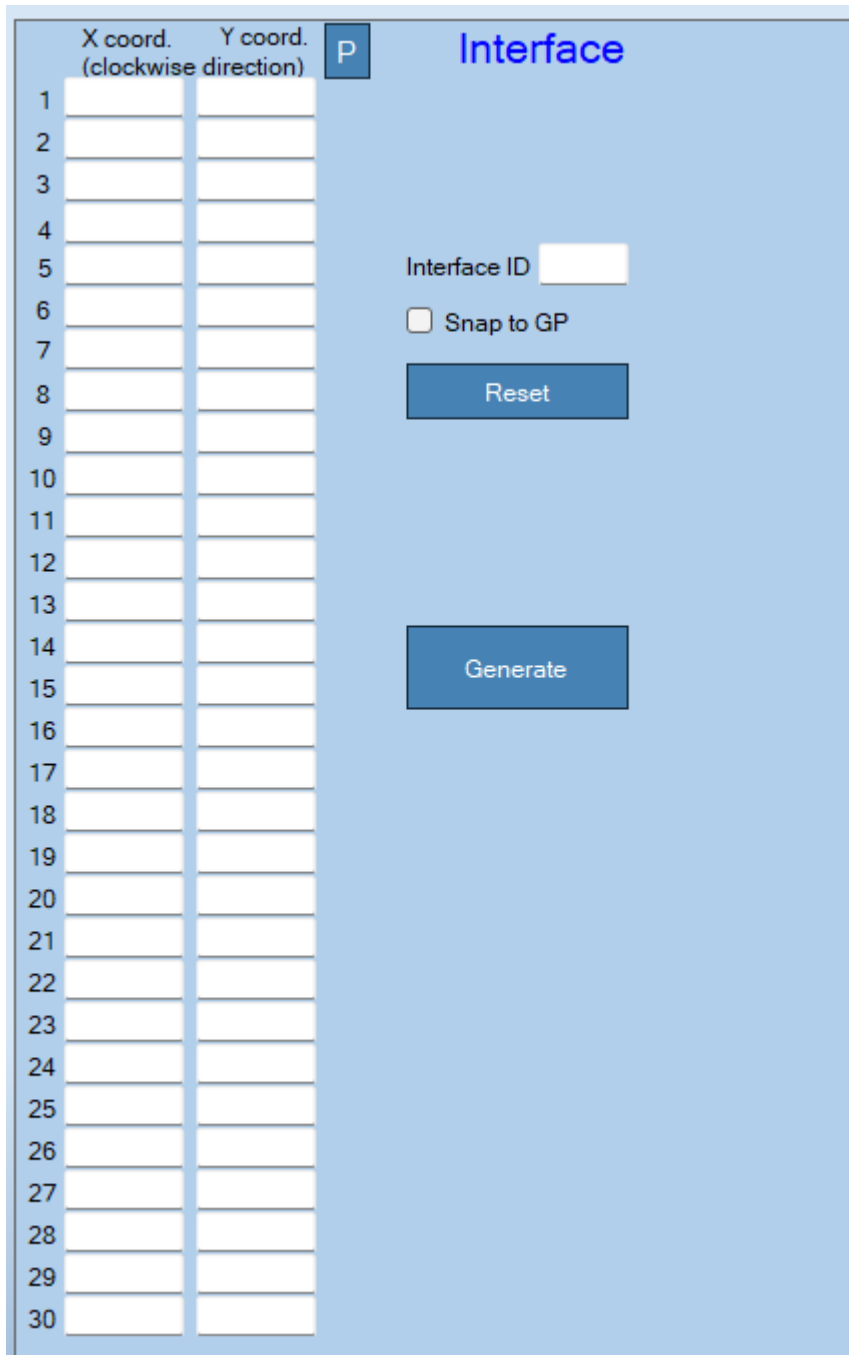

Figure 33: 3D Surfaces Menu – Interface Mesh.
- **3D Surfaces Menu, Interface Mesh:** This menu option (shown in Figure 33) produces a code for creating interfaces over an irregular surface created with *Geo Meshing v6*. This option does not require the execution of *3D Meshing* after generation.